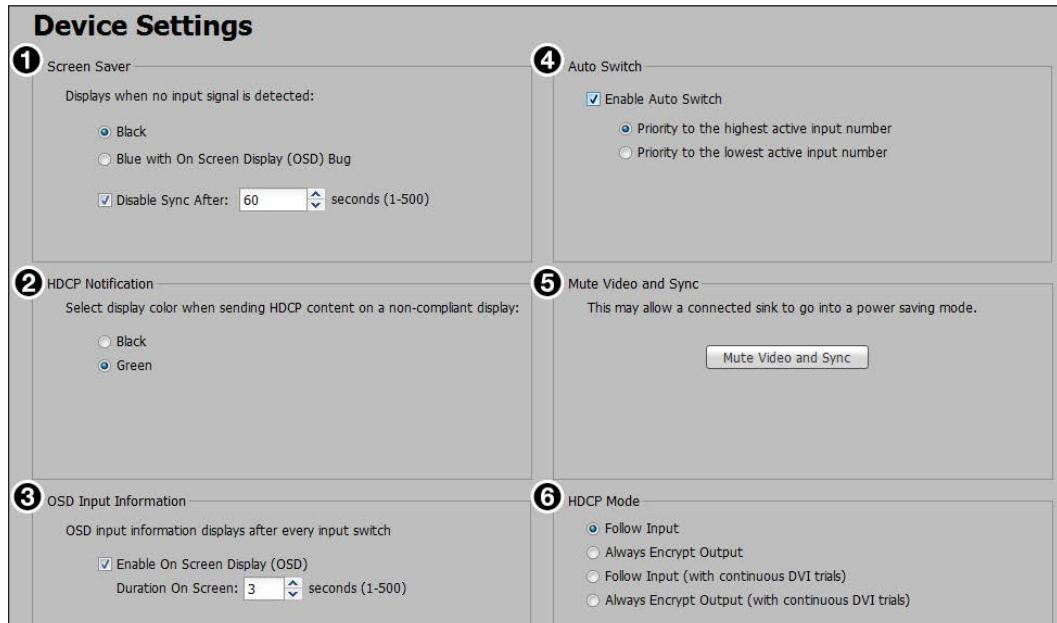

Figure 81. Device Settings Page
1. Click one of the radio buttons (see figure 81, 1) to select a display when the screen saver is enabled.
HDCP notification indicates when HDCP content restrictions prevent a video signal from passing. Select one of the following radio buttons (see **figure 81**, **2** on the previous page):